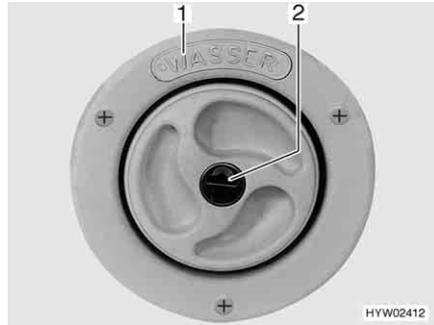
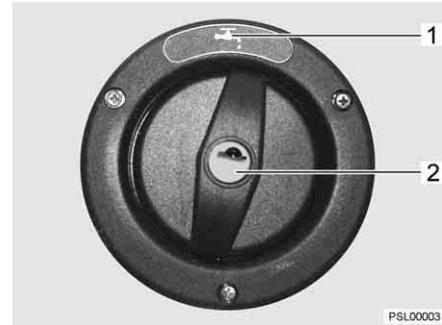

Fig. 33 Cap for the drinking water filler neck
Fig. 34 Cap for the drinking water filler neck (alternative)
- ▷ The drinking water filler neck is labelled by the word "WASSER" (water) (Fig. 33,1) or marked by the symbol "⚗" (Fig. 34,1).
- Insert the key in the locking cylinder (Fig. 33,2 or Fig. 34,2) and turn it in an anticlockwise direction.